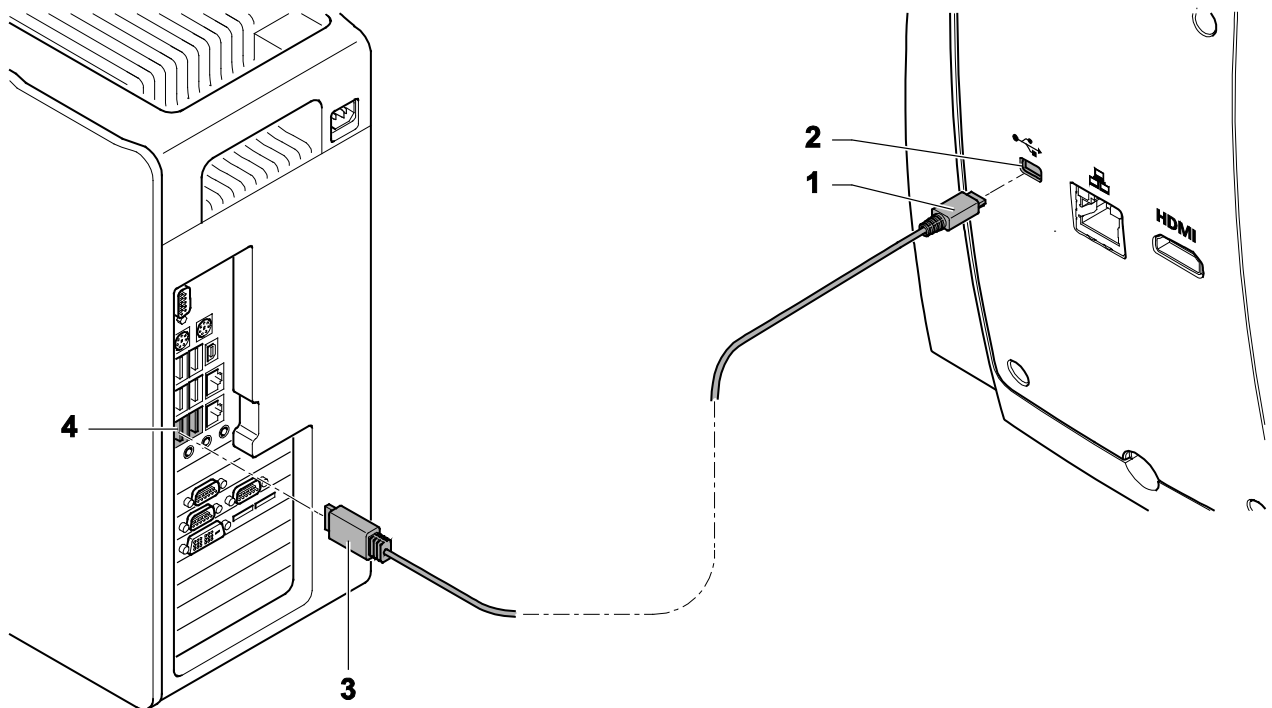

Fig. 19 Data transfer to the PC via USB port
- Insert the mini USB plug (Fig. 19/1) of the USB cable into the USB 2.0 port (Fig. 19/2) on the reverse side of microscope.
- Insert the USB 2.0 plug (Fig. 19/3) into the PC (Fig. 19/4).